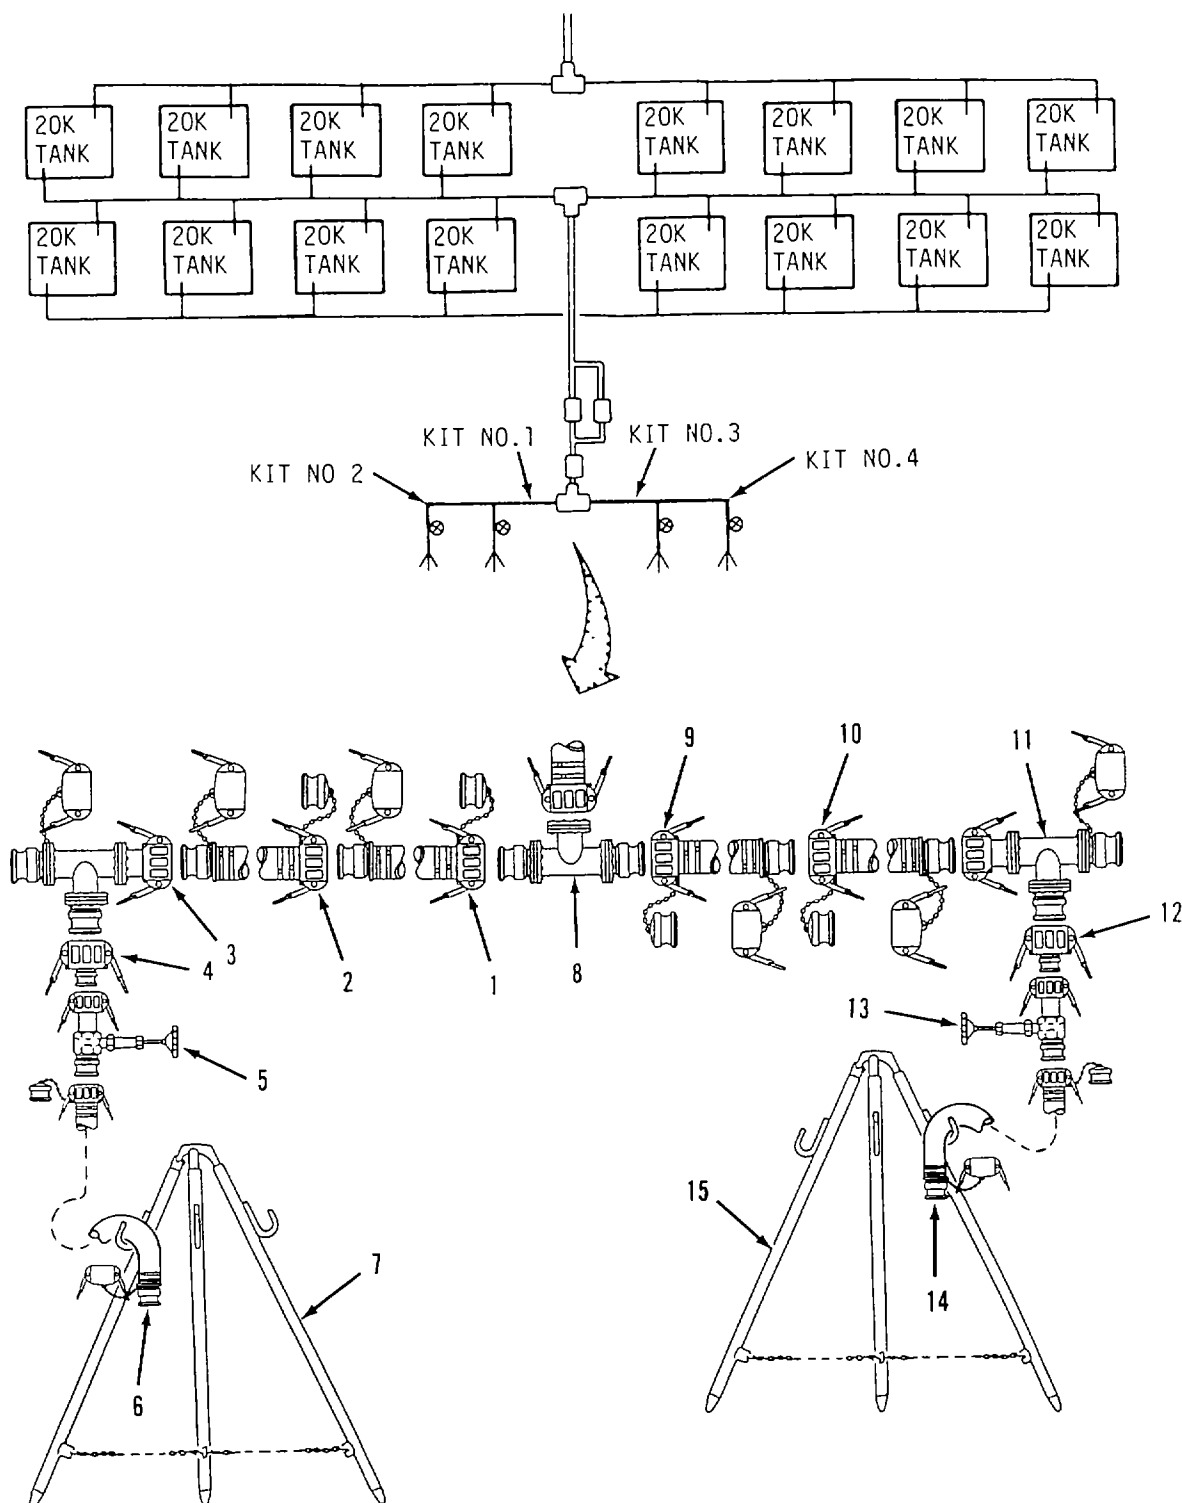

Figure 2-29. 2-Inch Hose Connection Kit Disassembly.
- e. Disassemble 2-Inch Hose Connection Kits. Refer to figure 2-29.